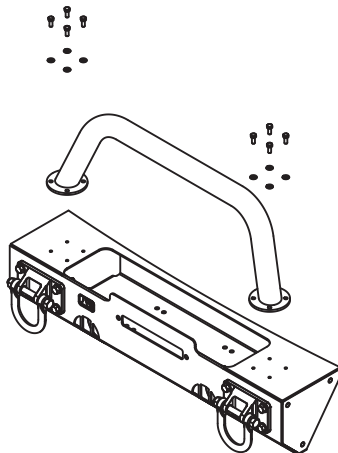

Figure 2a
2. Position Hoop over the Center Section, aligning the holes in the Hoop with the holes in the top of the Center Section (Figure 2a). Note that the Hoop can be installed leaning back or leaning forward, depending on the desired look (Figure 2b). Start all bolts, but do not tighten them.